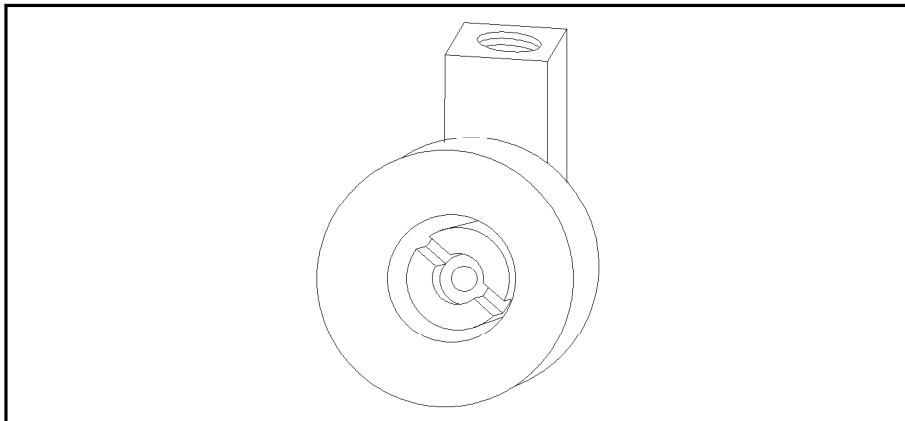

Figure 4-11. Cell Piece
5. Using the screwdriver, unscrew the cell screw from each cell piece, see Figure 4-11. The cell window and cell ring will come out with the cell screw.